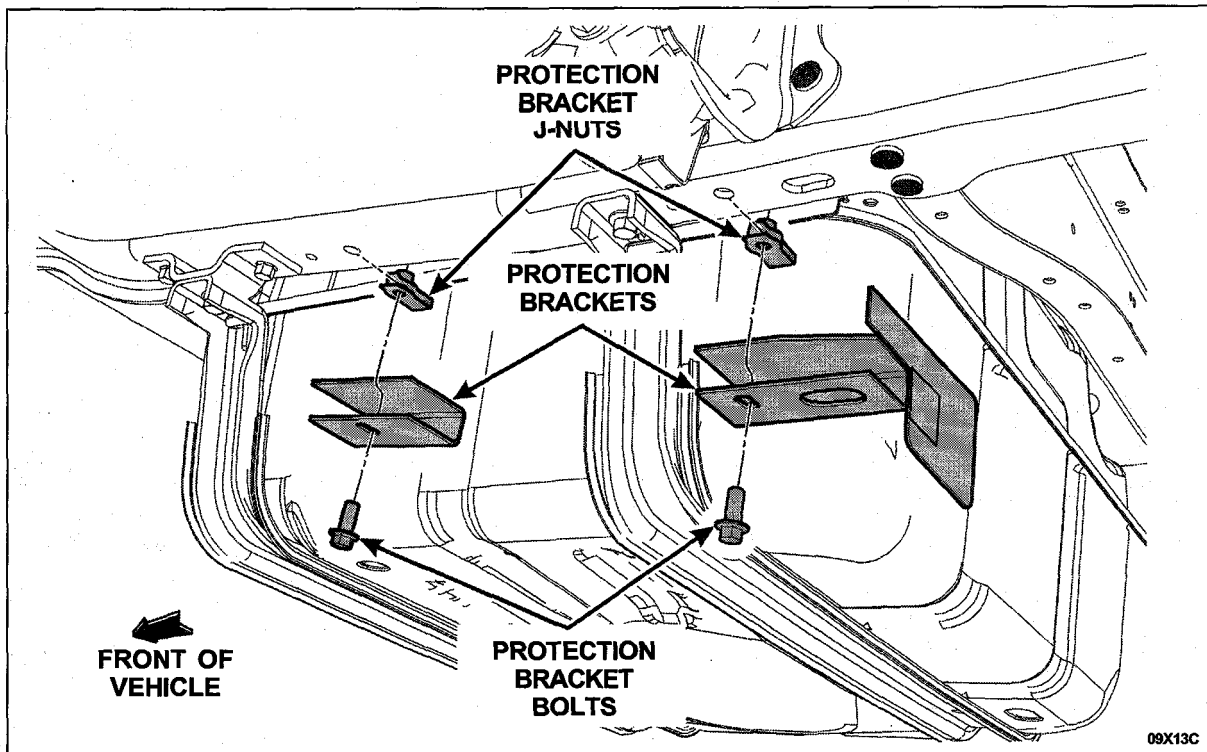

FIGURE 3
1. Install the protection bracket J-nut(s) onto the lower LH frame rail for the missing fuel tank protection bracket(s). See Figure 3.
2. Install the appropriate protection bracket(s) on to the frame rail. See Figure 3.